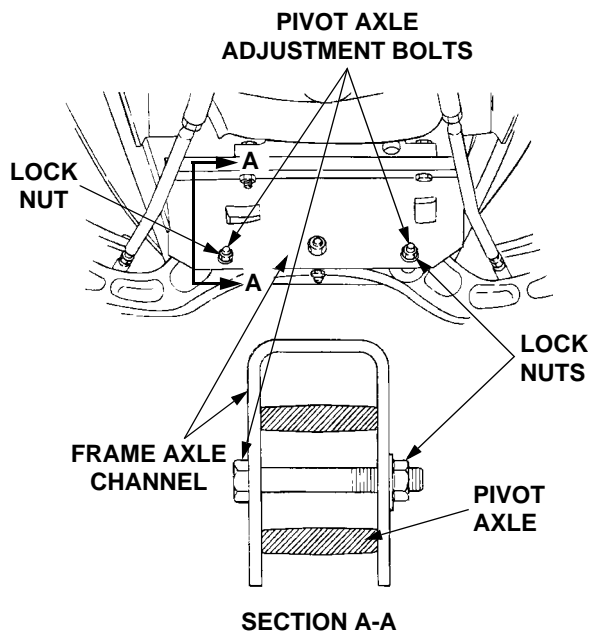

Figure 14
- Pivot the ends of the axle up and down to check for binding. If the axle is binding, loosen the lock nuts (See Figure 14) until binding is eliminated.